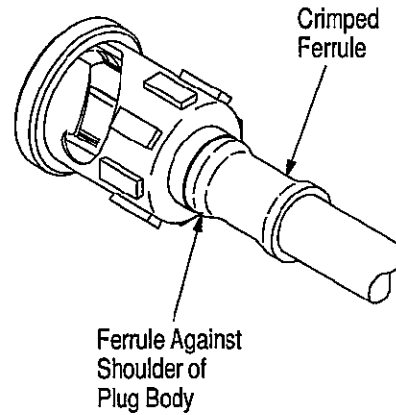

Figure 5
6. Slide ferrule forward over cable braid and support sleeve until it is positioned against the shoulder of the plug body. Crimp the ferrule using the recommended frame assembly fitted with appropriate die assembly. See Figure 5.